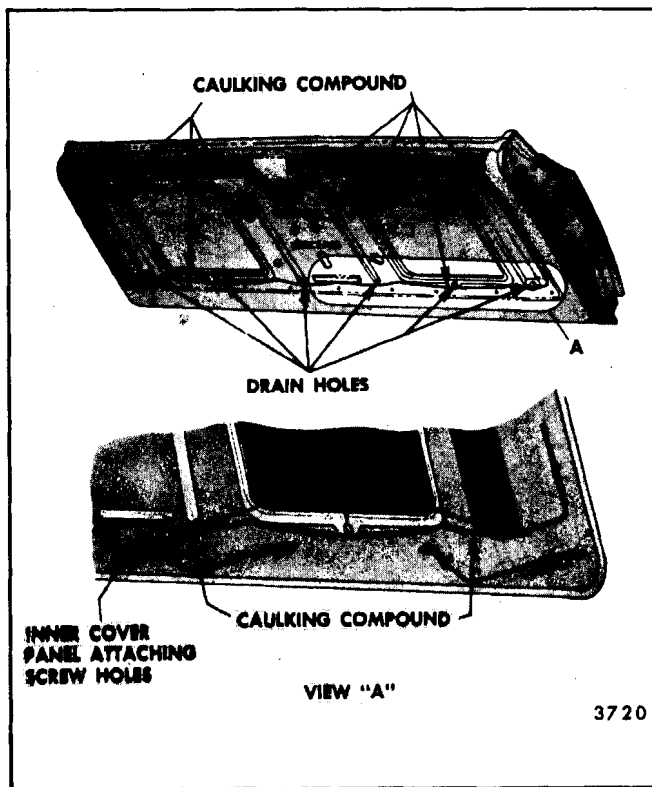

Fig. 9-30-Tail Gate Sealing
3. If needed, apply a bead of body caulking compound (approximately 3/16" diameter) to tail gate inner panel (See Fig. 9-30). The inner panel cover attaching screw holes should also be sealed with body caulking compound.